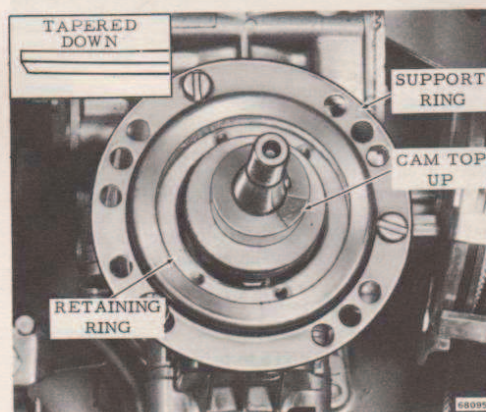

Figure 4-17. Armature Plate
b. Install cam, making certain that side marked "TOP" is up. See Figure 4-17.
c. Apply a coat of OMC Sea-Lube* Moly Lube to the armature plate support ring, retaining ring, and bushing in armature plate. Install retaining ring with tapered side down, and support ring. Align retaining ring to correspond to the position of the armature plate. See Figure 4-17. DO NOT add oil or grease to the oiler wick on the magneto.